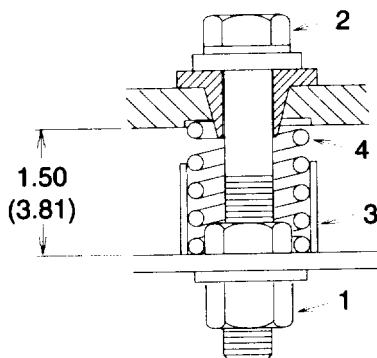

Figure 4-5. Compressor Mount
- d. Remove two caps (5) and fully open two shut off valves (6). Install two caps.
- e. Loosen four compressor mount locknuts (1, fig. 4-5). Loosen screw (2) until proper operating space (1.5 in. (3.81 cm)) is reached. Shipping bracket (3) must remain clipped to spring (4).